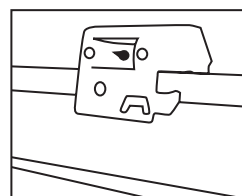

Figure 12
Step 3. Place frame into position and snap bar hanger foot with integral T-bar notch onto T-bars (Fig. 12). Lock in place. Additional holes are provided for securing with wire or screws if desired.